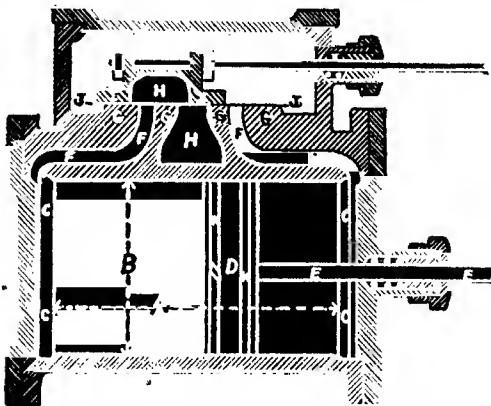

FIG. 36.—ENGINE CYLINDER AND VALVE.
- **The Cylinder and Steam Chest.**—The cylinder (Fig. 36) is the part in which the steam is converted into power, by imparting a reciprocating motion to the piston contained within it. It is made slightly longer than the stroke of the